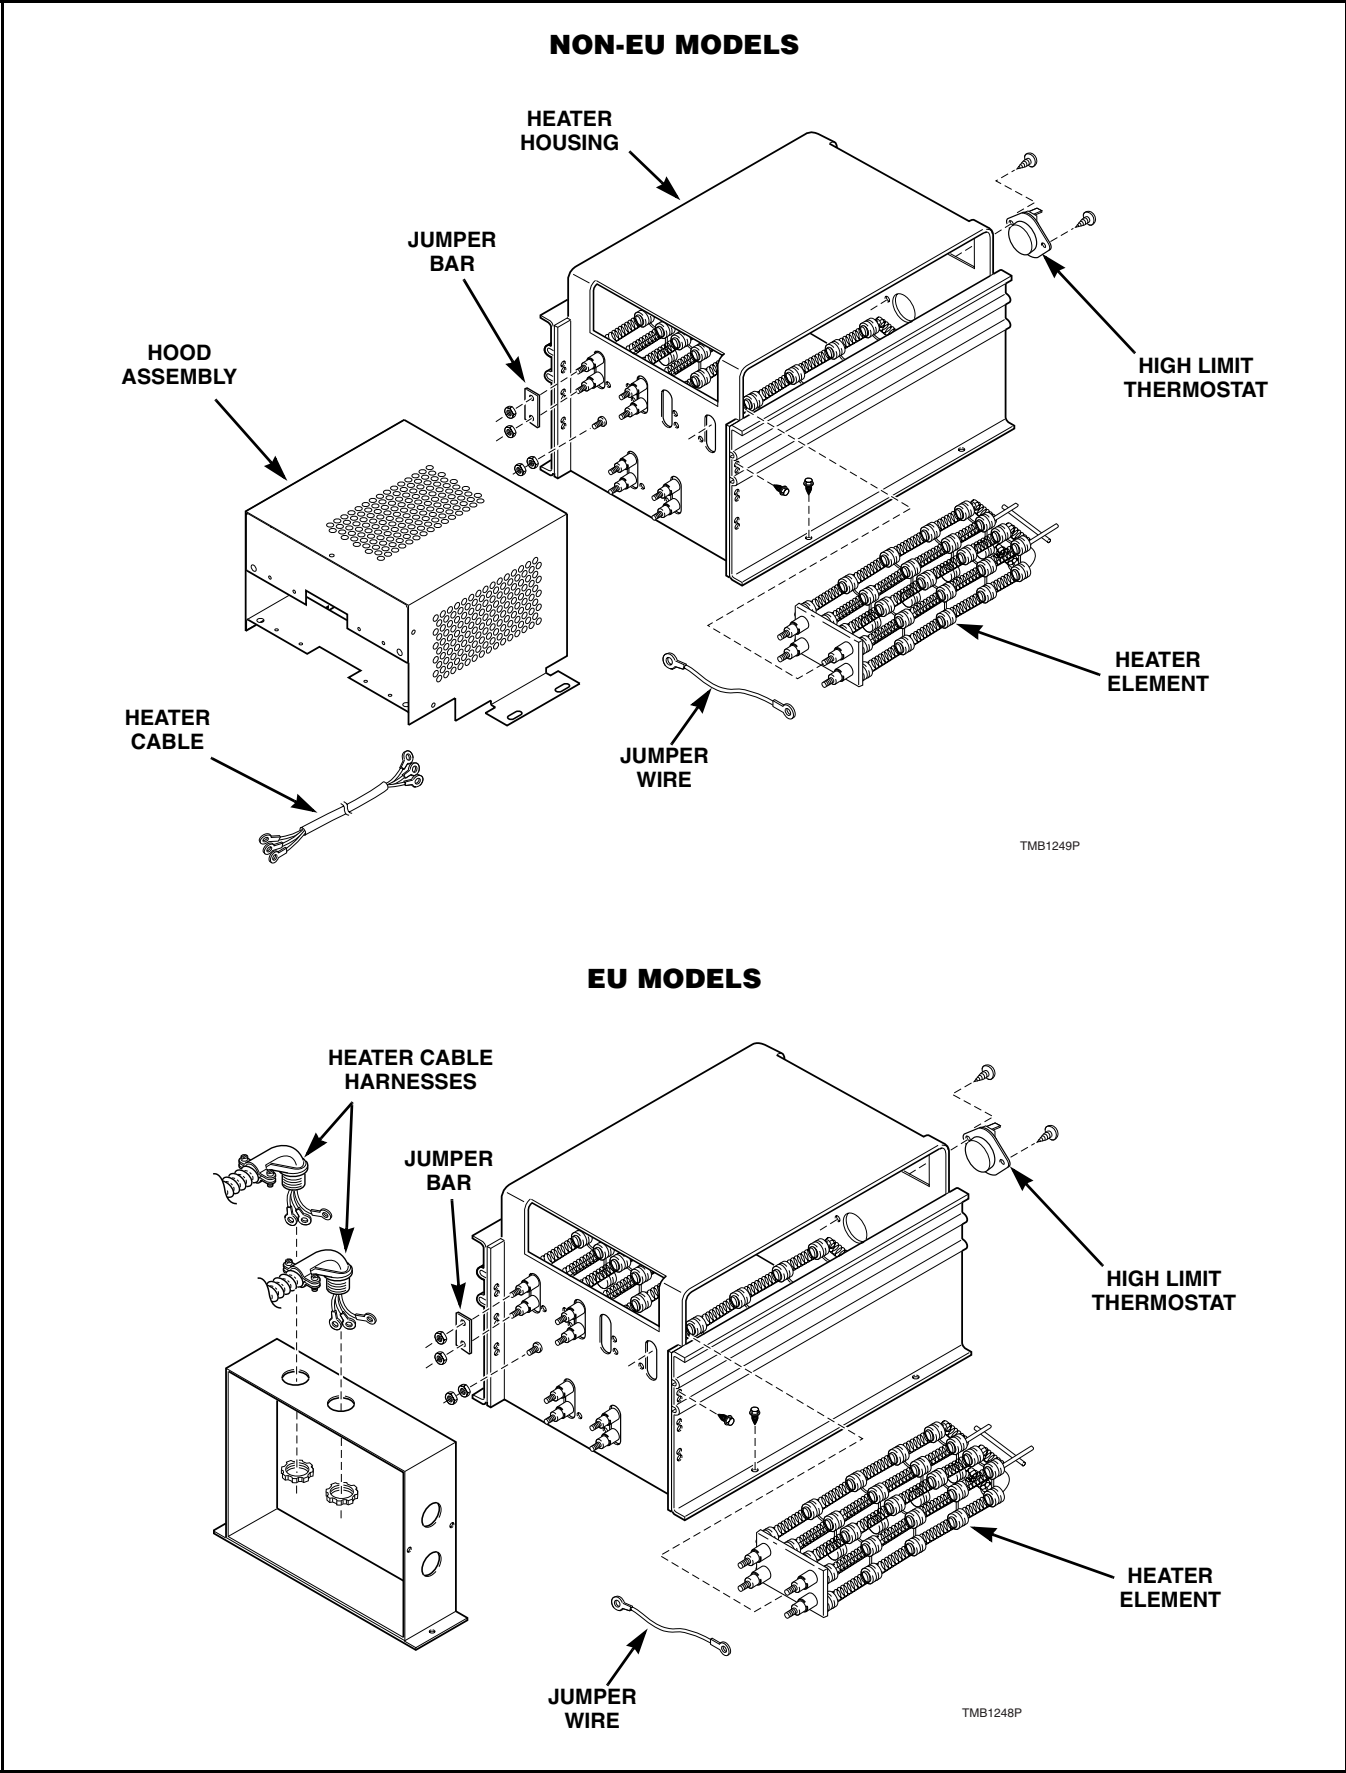

Figure 3
Refer to *Figure 3*.
- c. Remove two screws holding thermostat to front of heater and remove thermostat. Refer to *Figure 3*.